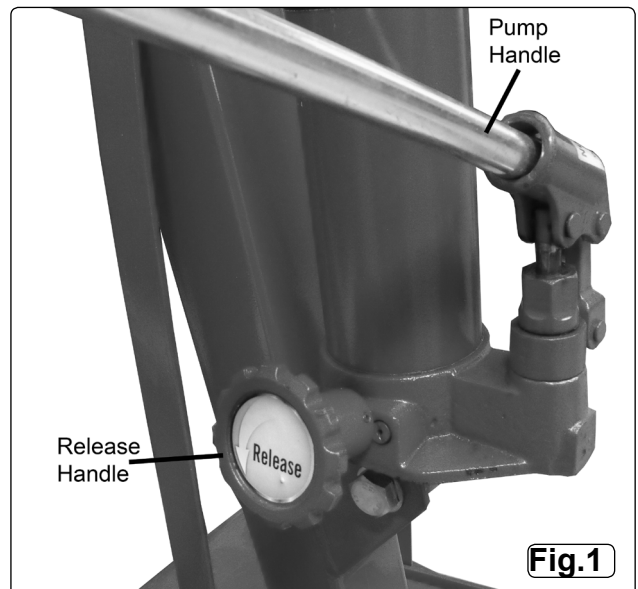

Fig.1
- e) For control system, see Fig.1 for release valve and pump handle assy. Usage is explained in Section 5 Operation.